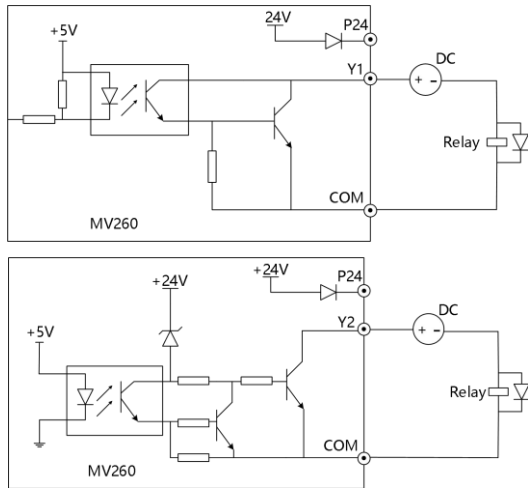

Fig.3-18 Wiring mode 2 of multi-functional output terminal
(2) When the Multi-functional output terminals Y1 and Y2 use the external power supply, the wiring mode is as shown in Fig.3-18.